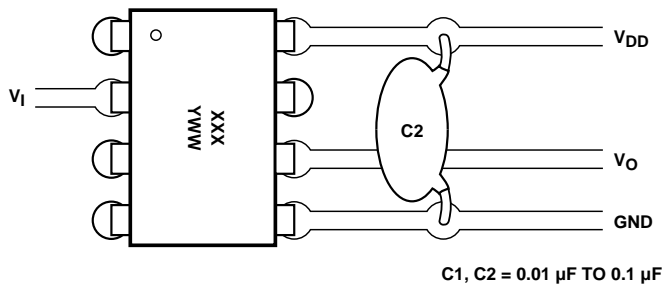

Figure 7. Recommended printed circuit board layout.
0.1 μF . For each capacitor, the total lead length between both ends of the capacitor and the power-supply pins should not exceed 20 mm. Figure 7 illustrates the recommended printed circuit board layout for the HPCL-0708.